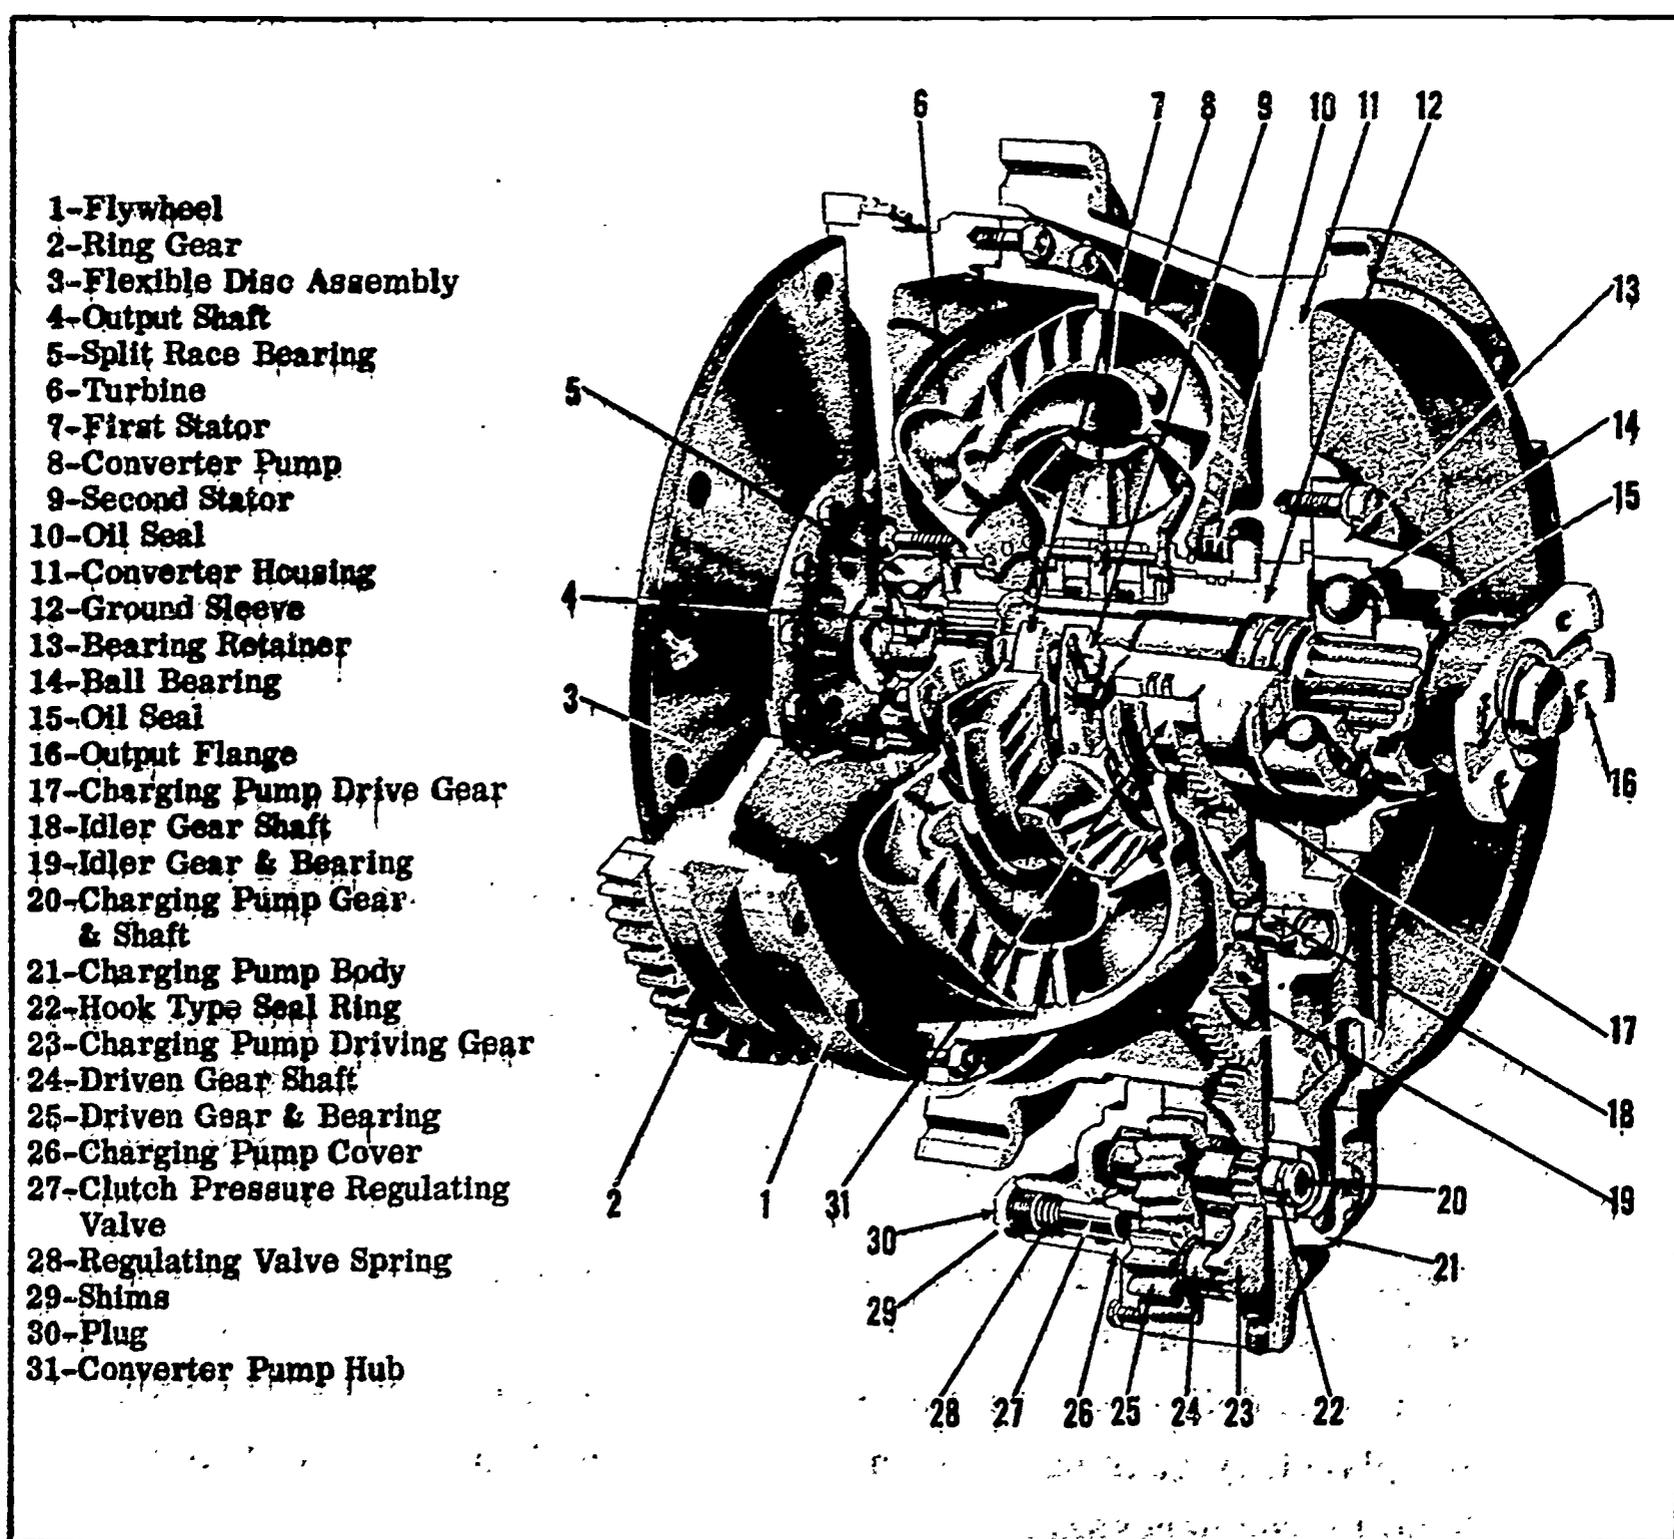

Fig. 5 Cutaway view of a torqmatic converter
Figure 5 shows a cutaway view of the TC-500 converter. This converter performs two functions: It increases the torque or twisting force which the engine delivers, and it acts as a fluid coupling between the engine and planetary gearing when an increase or multiplication of torque is no longer necessary.
In Figure 5, the four major elements of the converter are the converter pump (6), the turbine (5), the first stator (32) and the second stator (31). The converter pump is bolted to and driven by the engine flywheel (3). Thus, the converter pump revolves at the same speed as the engine crankshaft. The turbine is splined to the converter output shaft (19). The turbine is free to rotate in the oil tight housing formed by the converter pump and the flywheel. The first and second stators ride on a roller race (8), splined to the converter ground sleeve (14), between the converter pump and the turbine. These stators are free to rotate in the direction of rotation of the converter pump but will lock up immediately when backward pressure is applied.